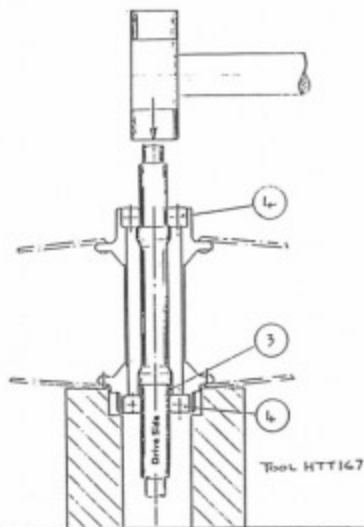

FIG 3
2. Support drive side spoke flange, use special tool no. HTT167. If tool is not available use a suitable bush or a pair of parallels. See Fig. 3.